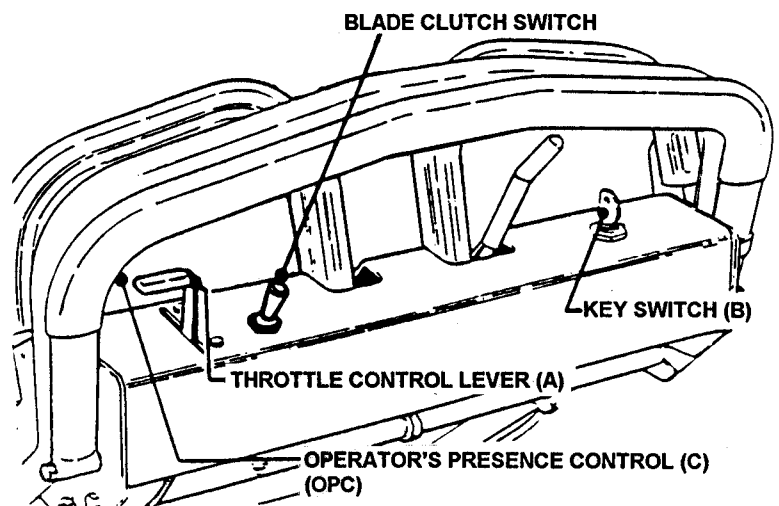

FIGURE 7
- 4a. **LOOP HANDLE** - Pull Blade Clutch Switch backward (toward operator) to the **OFF** position. See Figure 7.
9. Place Transmission Shift Lever in No. 1 position (first gear). See Figure 7.
- 10a. **LOOP HANDLE** - Push Blade Clutch Switch to **ON** position. See Figure 7.